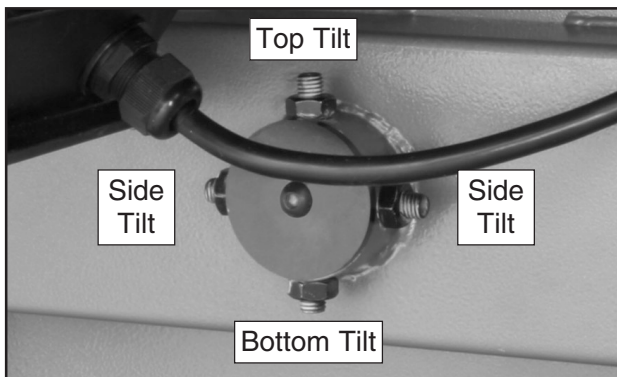

Figure 86. Lower wheel adjustment control.
7. If the wheels will go parallel but not coplanar, then move the lower wheel at the adjustment hub (**Figure 86**) as necessary.